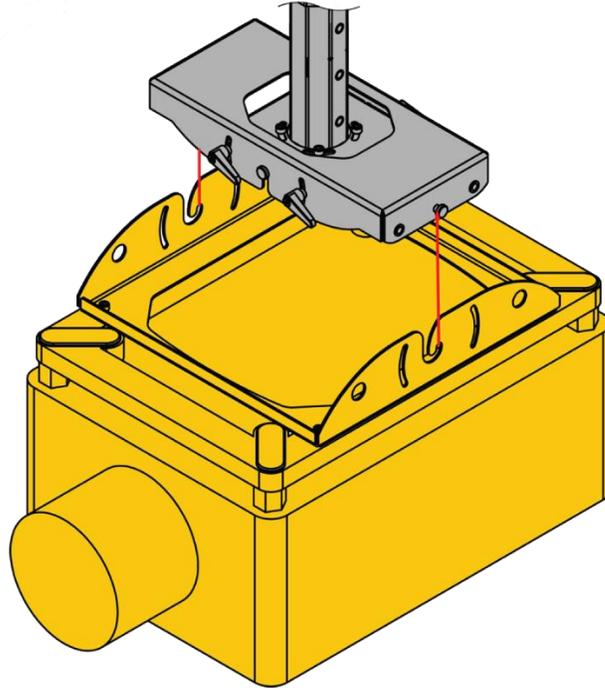

Figure 85:
Step 11: Attach the projector plate ⑥ and projector to the middle plate ⑤, as shown in **Figure 85**.